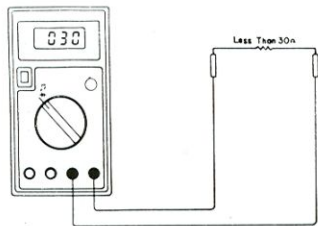

Fig. 5-7. Audible Continuity test
2. Set the FUNCTION switch to the 🎵 range (same ➡ range) and connect the test leads across the resistance under measurement. See Fig. 5-7.